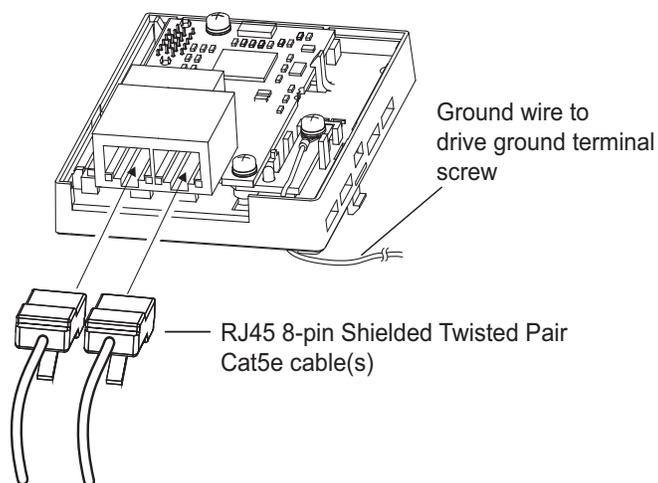

Figure 33 Communication Cable Ports
9. Firmly connect RJ45 8-pin Shielded Twisted Pair Cat5e cable(s) into the modular connector ports to connect the option to a network, **Figure 33. Refer to Network Topology and Connections on page 32.**